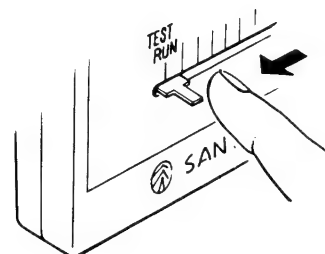

Fig. 39
- Set the thermostat lever to the TEST RUN position. Fig. 39